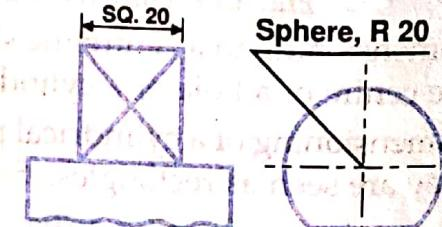

Fig. 3.24 Dimensioning of a square rod and a sphere
- (xiii) Letter *SQ* should precede the dimension for a square rod, whereas letter *R* should precede the dimension for a sphere. See Fig. 3.24.